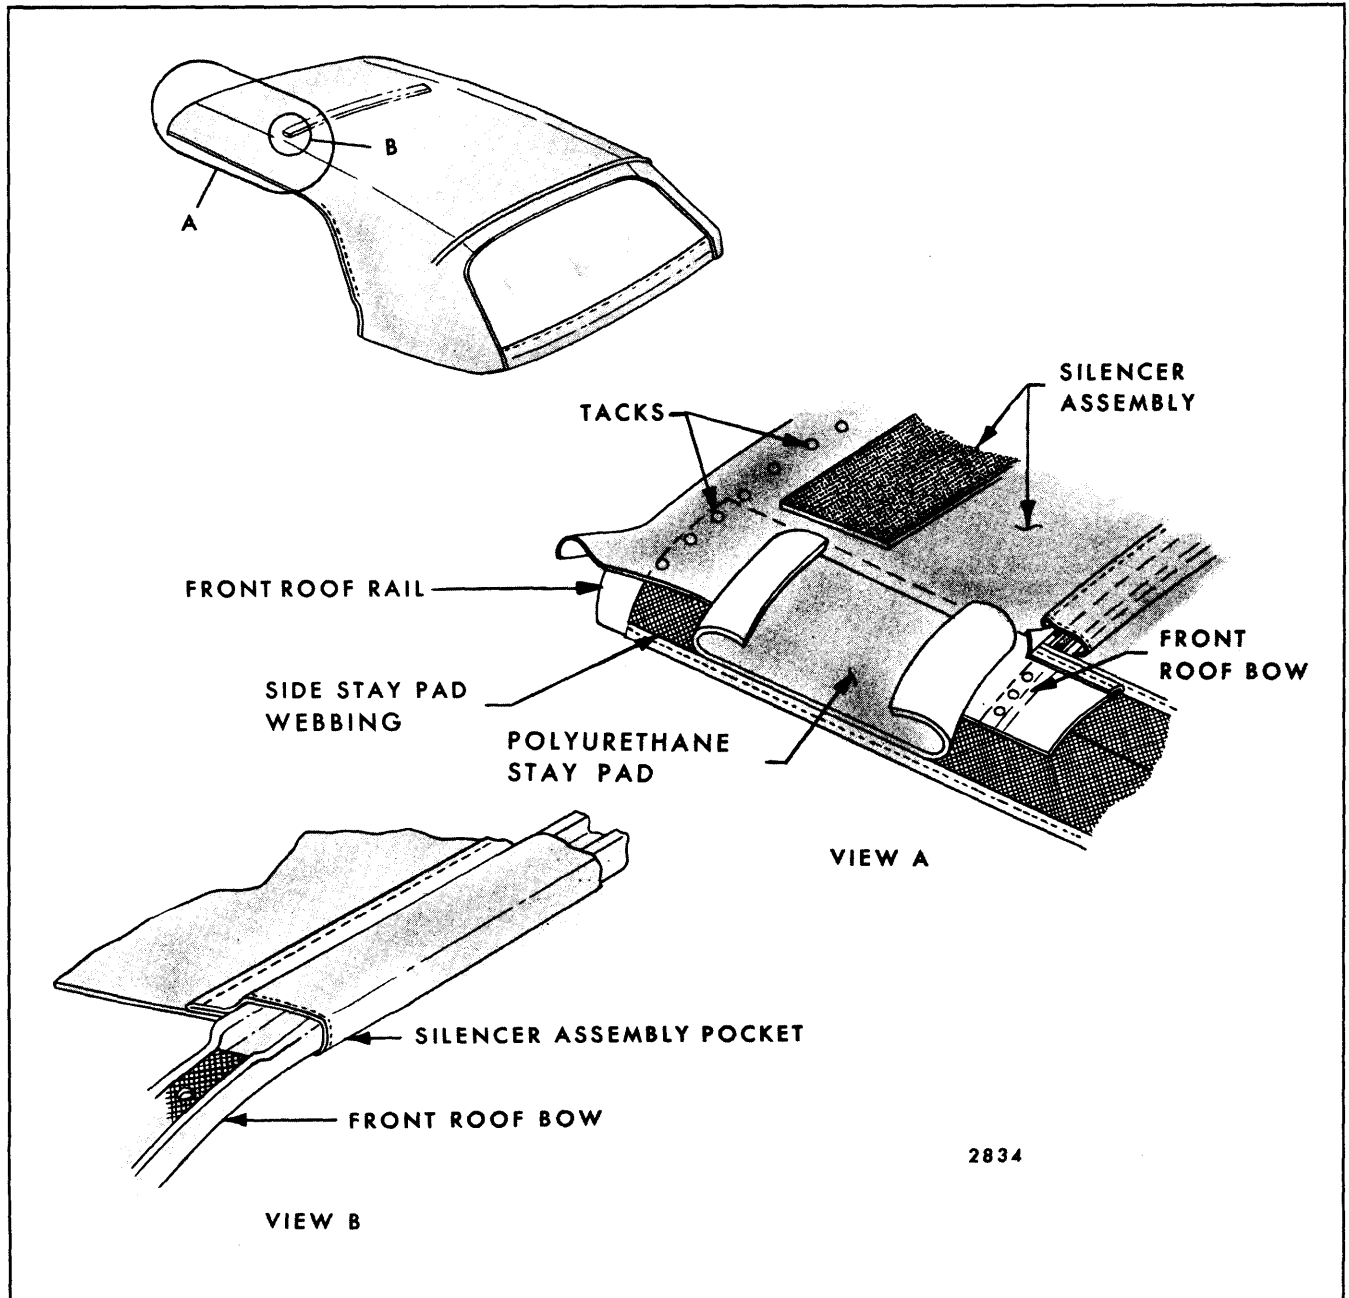

Fig. 13-16—Folding Top Silencer Installation - Cadillac Styles
bow, and from the right side stay pad to the left side stay pad (Fig. 13-16).
1. With deadener pad on top side of assembly, slip pocket on assembly over front roof bow (View "B", Fig. 13-16).
5. Tack outboard ends of assembly to front roof rail (View "A", Fig. 13-16).